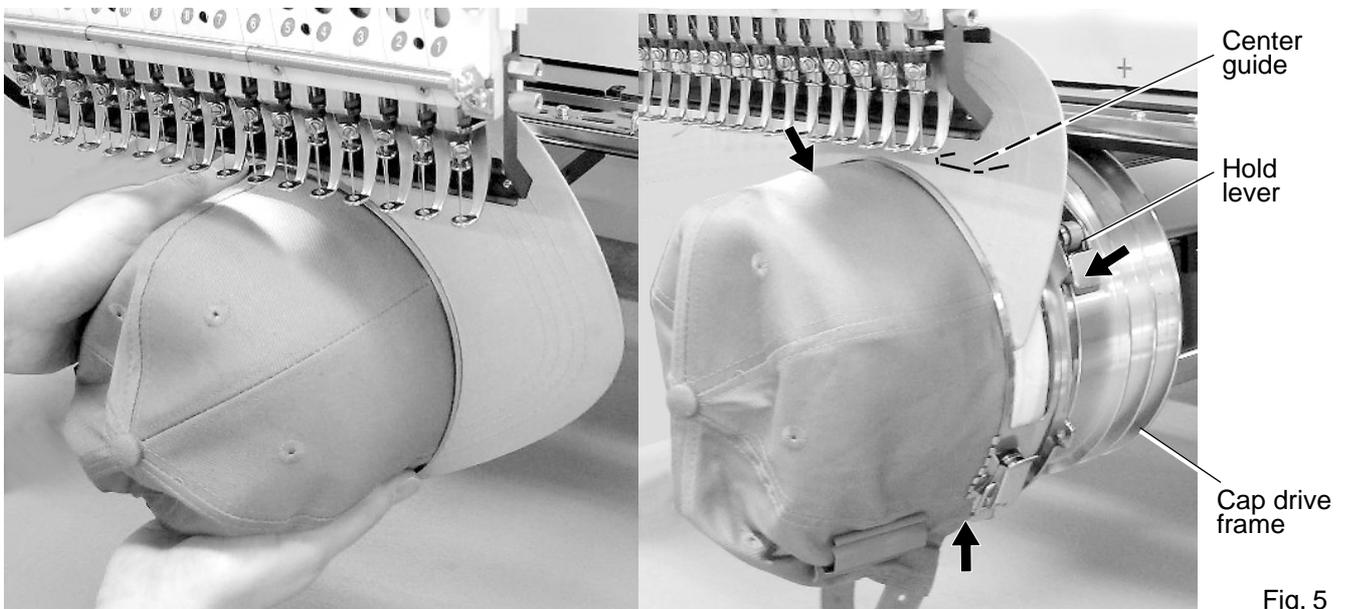

Fig. 5
8. As shown in Fig. 5, place the cap holder frame the cap drive frame assembly. Push the hold lever in at 3 places as shown by the marks and place the cap holder frame so that center guide of the drive frame assembly gets in the upper cap holder frame.